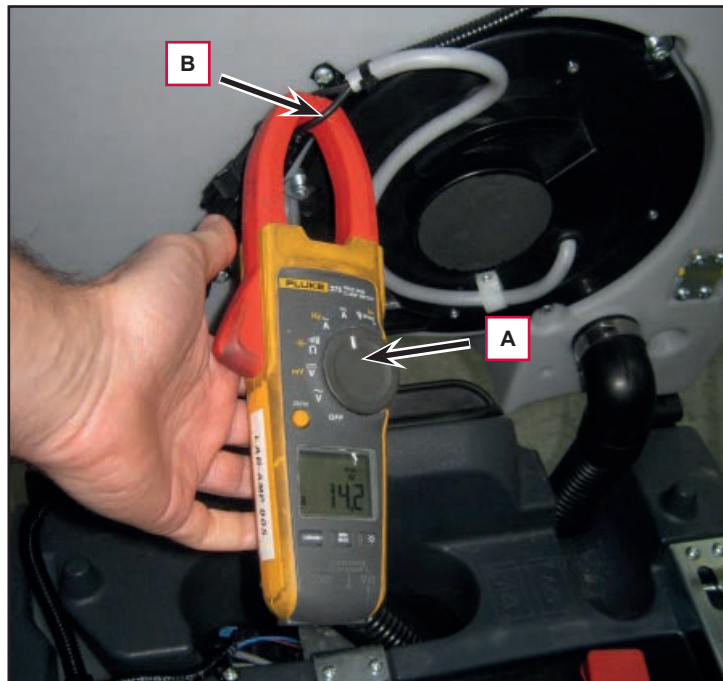

Figure 5
2. Apply the amp clamp (A) to a cable (B) near the vacuum unit (Figure 5).